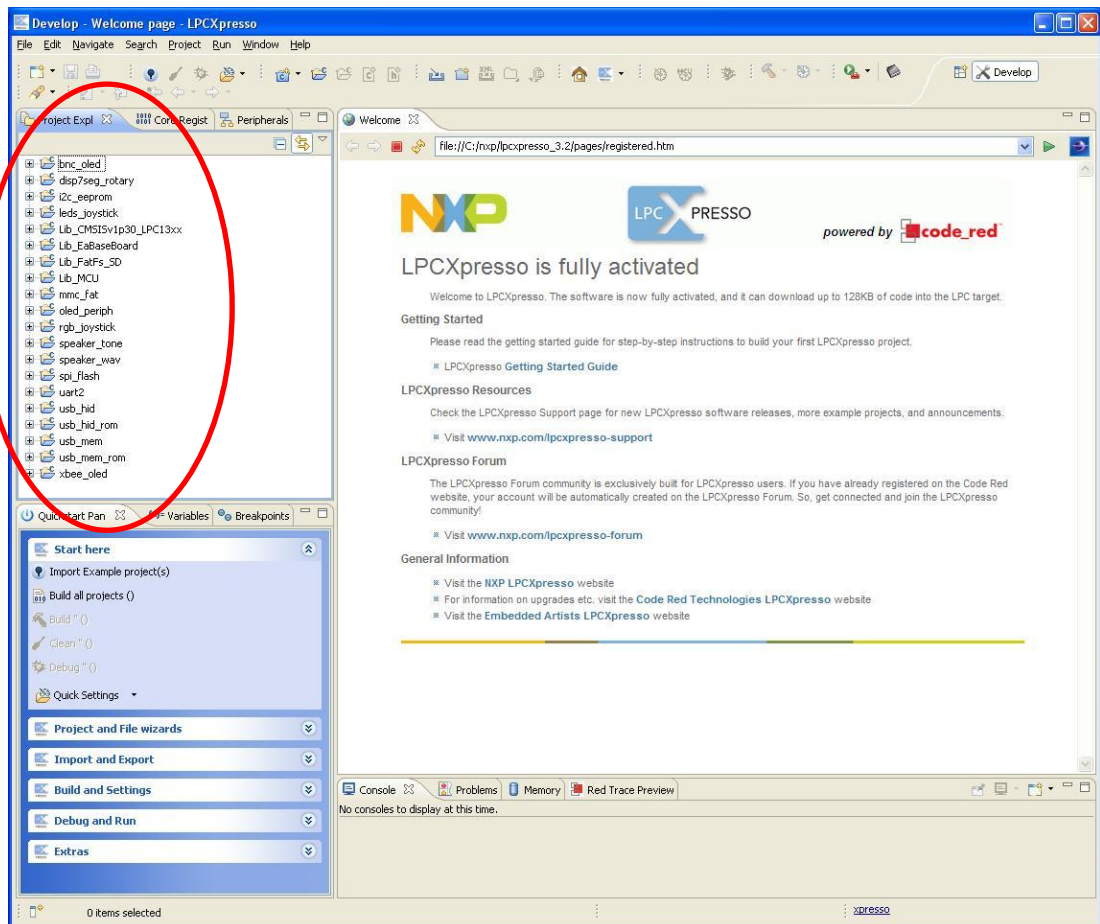

Figure 13 – LPCXpresso imported projects
5. When the zip file has been imported you will see all projects in the Project Explorer window, see Figure 13.